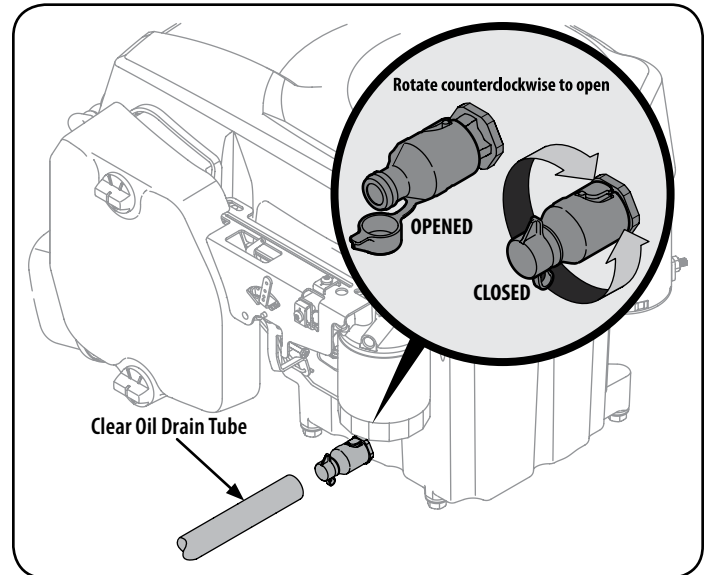
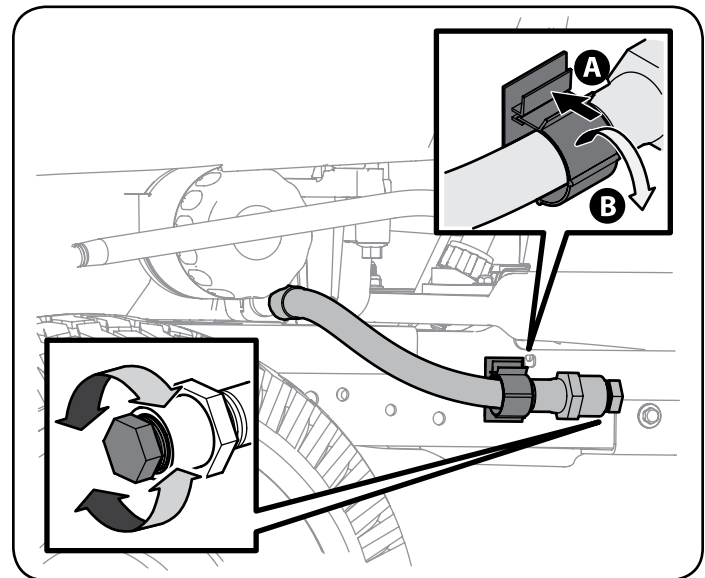

Figure 15
Figure 16
4. Your engine is equipped with either a twist-and-pull oil drain (see Figure 15 and go to Step 5.) or a removable oil drain hose plug (see Figure 16 and go to Step 6.) Follow the applicable instructions for your tractor.
5. Twist-and-pull oil drain (refer to Figure 15):
6. Removable oil drain hose plug (See Figure 16):
- a. Remove the oil drain hose from the clip on the left side of the frame. See Figure 16.
- b. Remove the oil drain hose plug from the end of the hose. See Figure 16. Drain the engine oil into the collection container.